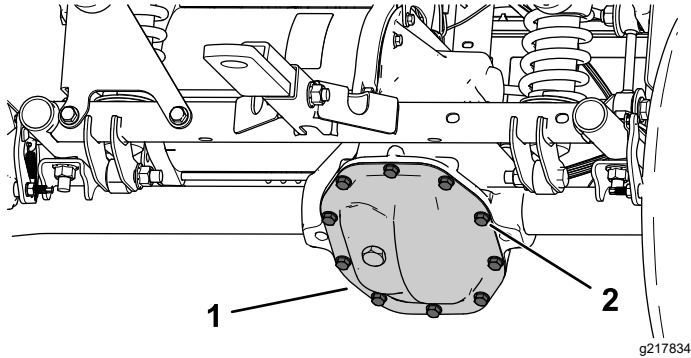

Figure 55
1. Align a drain pan under the transaxle cover (Figure 55).
2. Remove the bolts from the transaxle cover and drain the fluid completely (Figure 55).